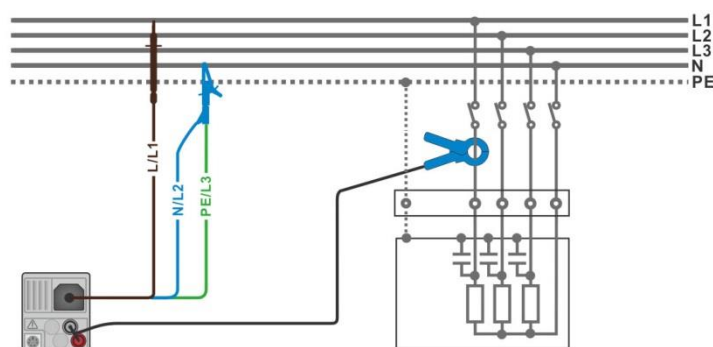

Figure 7.67: Power measurement
- › Connect the voltage test leads and current clamp to the item to be tested (see **Figure 7.67**).